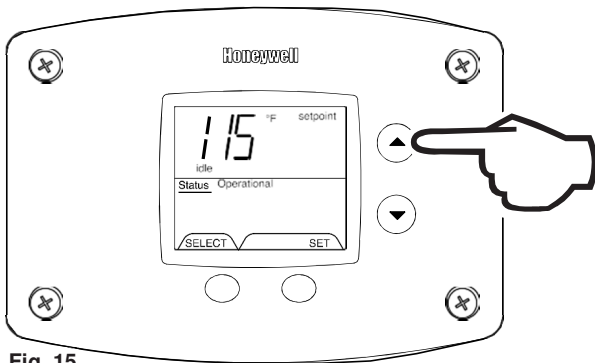

Fig. 15
2. 'Setpoint' indicator begins flashing in the display after pressing 'Temperature Up' button (Fig. 15).